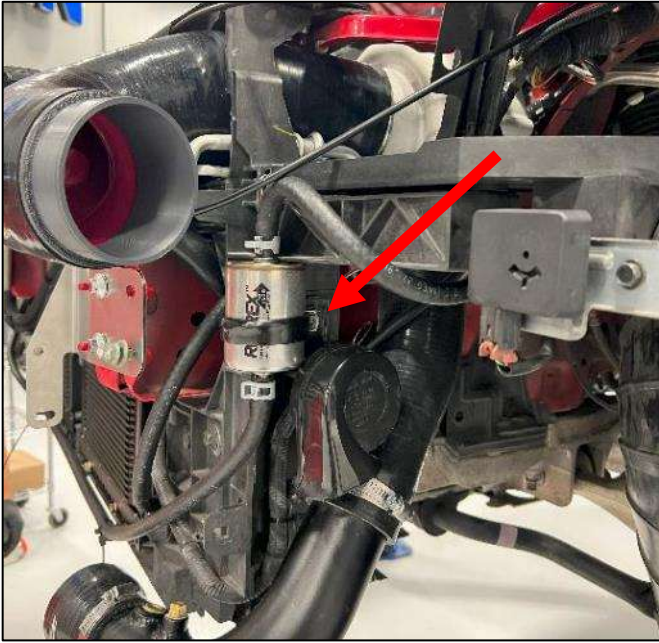

Figure 36
13. Remove the 10mm bolt securing the driver side horn to the Core Support. Using the provided large, Cushioned Rubber Loop P-clamp (#29), secure the Rotrex Magnetic Oil Filter to the Core Support under the driver's headlight (*Figure 36*) with the horn rotated and sandwiched under the P-clamp. The filter has an arrow indicating the direction of flow for the oil, the arrow **MUST** point up towards the Supercharger.